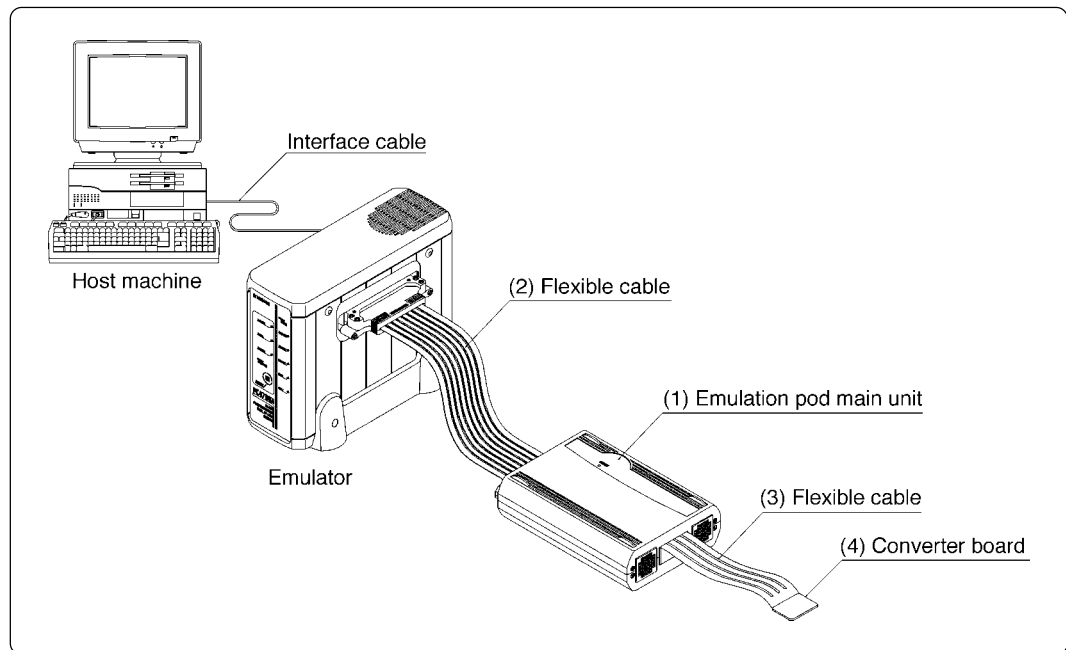

Figure 2.1 System configuration
(1) to (4) in Figure 2.1 are included in this product package.